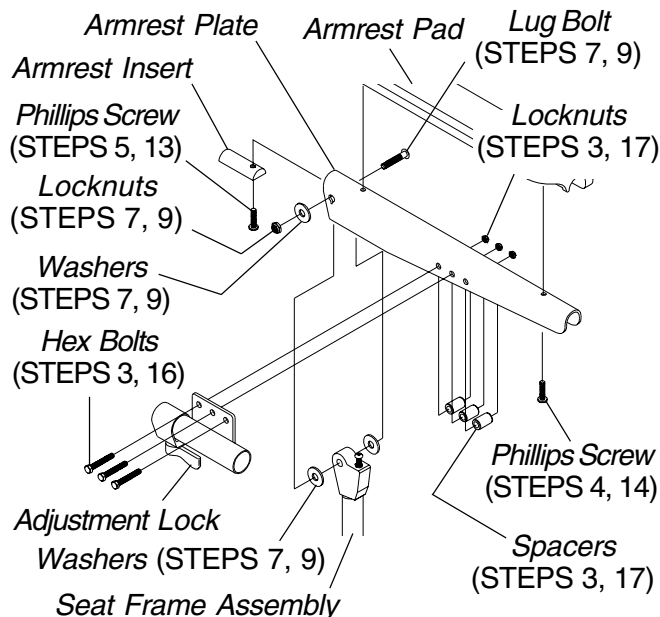

FIGURE 1 - REPOSITIONING MKIV JOYSTICK - CAPTAIN'S SEATS
Captain's Seats (FIGURE 1)
3. Remove the three (3) hex bolts, spacers and locknuts that secure joystick mounting bracket to armrest plate.
9. Position armrest plate with joystick mounting holes on desired side of seat frame assembly and secure with lug bolt, washers and locknut. Refer to FIGURE 1.
10. Position armrest plate without joystick mounting holes on opposite side of seat frame assembly and secure with lug bolt, washers and locknut. Refer to FIGURE 1.